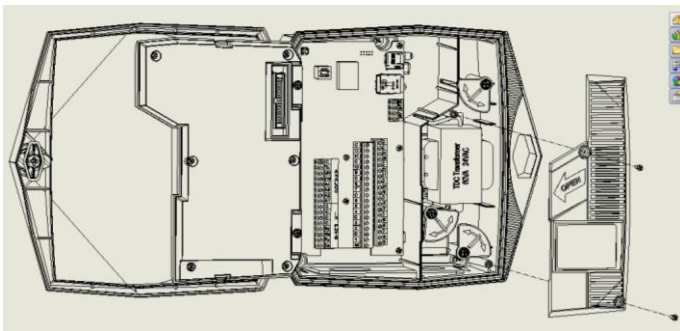
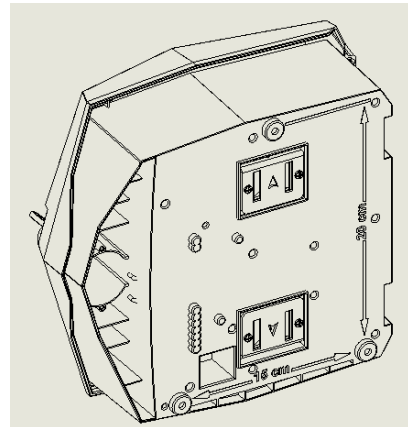
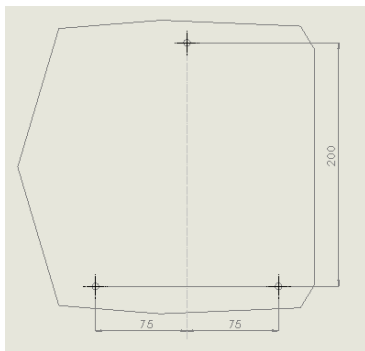

Figure 3: Opening the Internal Casing
Figure 4: Mounting Screw Holes on Back of Unit
Figure 5: Mounting Screw Holes Dimensions
3. For the internal casing on the right side, unscrew the two screws and open the casing (Figure 3). Mount the controller to the wall or to the control cupboard through the marked holes (Figure 4 and Figure 5) with the aid of the three supplied screws. Close the screws by hand only.
3. For the internal casing on the right side, unscrew the two screws and open the casing (Figure 3).